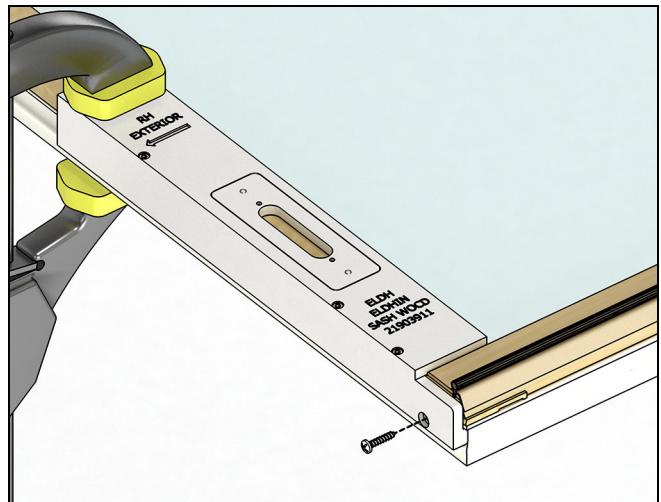

Figure 2
5. Using a Phillips screw driver, manually fasten the bottom, inside of the WOCD stile jig to the bottom, inside of the top sash with the tilt pin screw. See Figure 2.